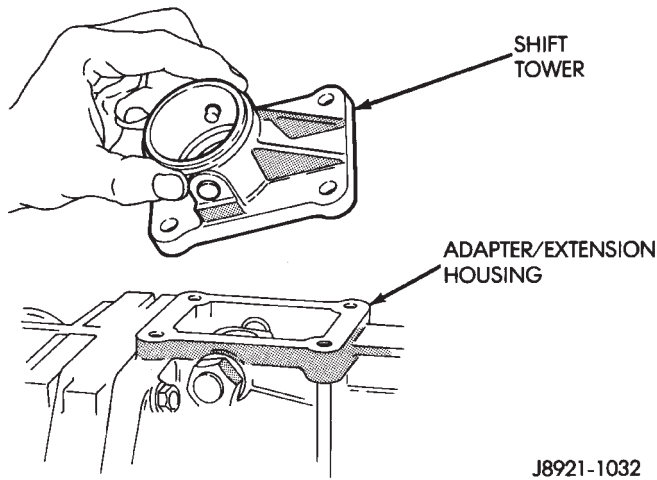

Fig. 128 Shift Tower Installation
(29) Install shift tower (Fig. 128). Tighten tower attaching bolts to 18 N·m (13 ft. lbs.) torque.